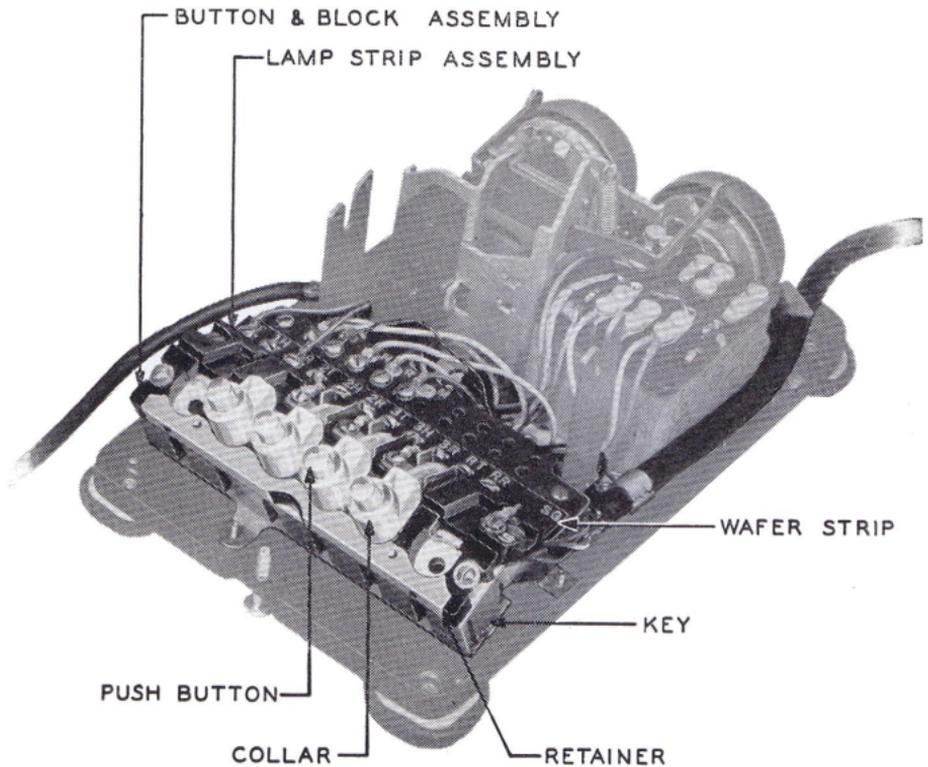

Fig. 1—540-type Set (Interior View)
2.04 Fig. 1 illustrates items that are peculiar to 540-type sets. (560-type sets have similar parts.)